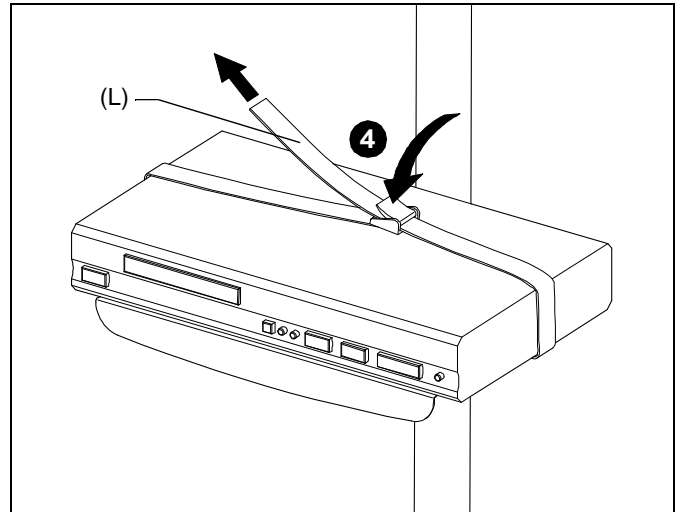

Figure 7
4. Pull strap (L) until tight around equipment and press clasp closed to secure. (See Figure 7)